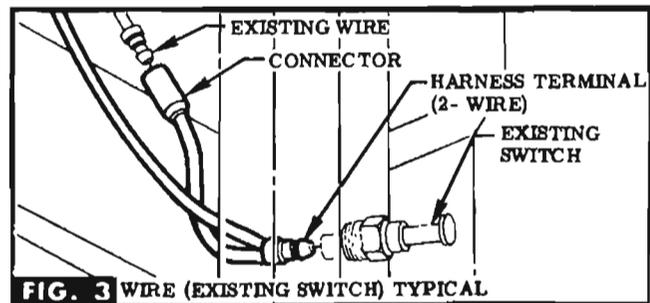

FIG. 3 WIRE (EXISTING SWITCH) TYPICAL
- STEP 6** (WITH JAMB SWITCHES) DISCONNECT EXISTING WIRING FROM JAMB SWITCH & PLUG INTO ROUND CONNECTOR ON LAMP HARNESS. PLUG LAMP HARNESS TERMINAL INTO JAMB SWITCH (EACH SIDE). SEE FIG. 3.